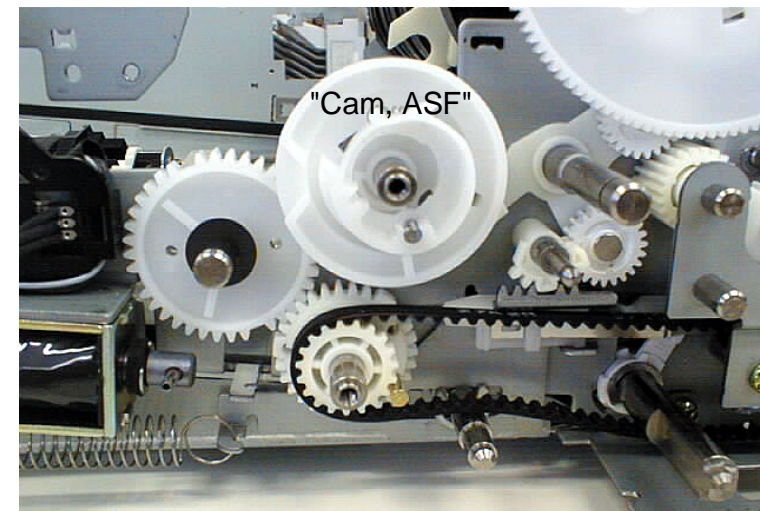

Figure 4-101. Installing "Cam, ASF"
18. Set "Cam, ASF" to the same axis. (Refer to Figure4-101)